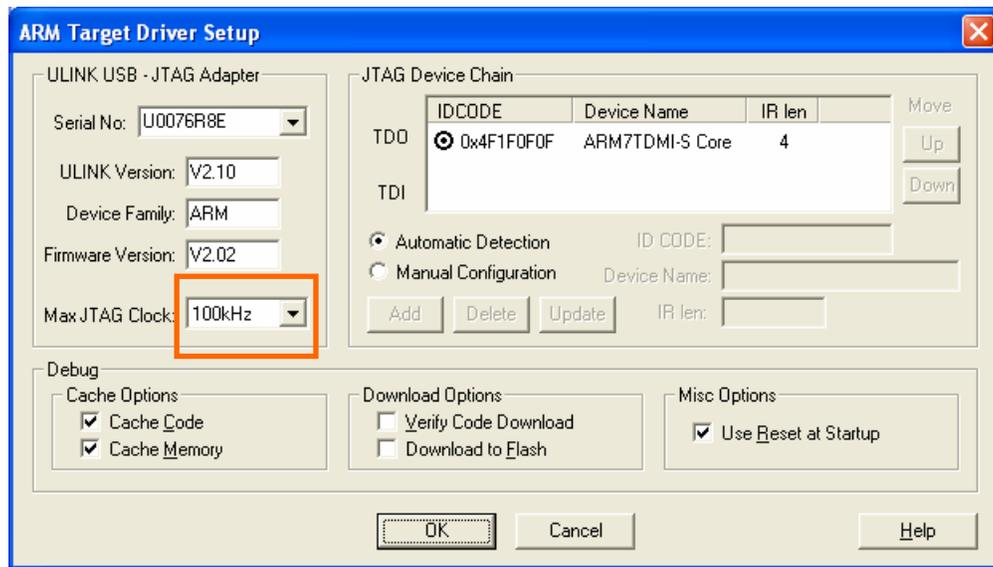

Figure 2-5. μVision3 ULINK Debugger Settings
2. Press the “Settings” button on this tabpane. A new dialog, as shown in Figure 2-5, should appear. Match the settings as appears in Figure 2-5. It is possible that a JTAG clock speed of 100kHz may be too fast for either your target or your ULINK; consequently, if you have problems at 100 kHz, please decrease this and try again.